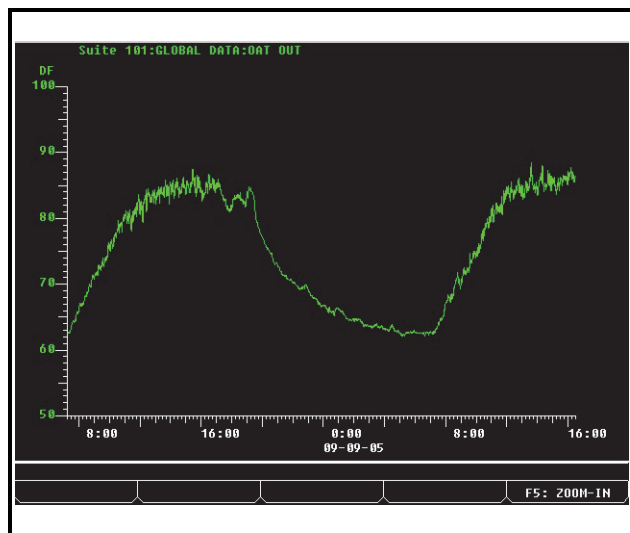

Figure 12-28 - Sample Graph View
- **F3** GRAPH - Displays logged data in a graph format (see **Sample Graph View Figure 12-28**).